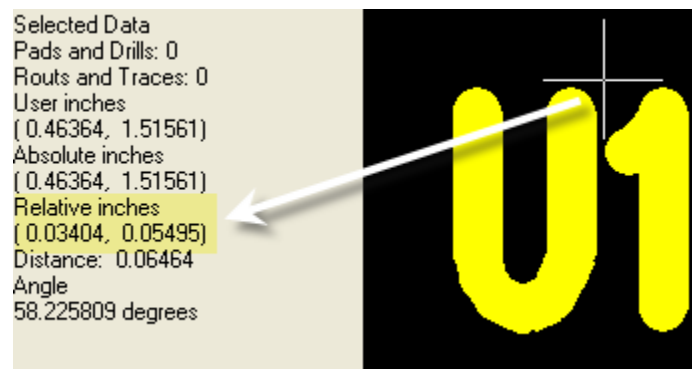

Figure 41
4. Verify that the correct Silk and Parts layers are defined in the layer fields, then enter the x and y values from the previous step in the Width and Height fields – See Figure 41: